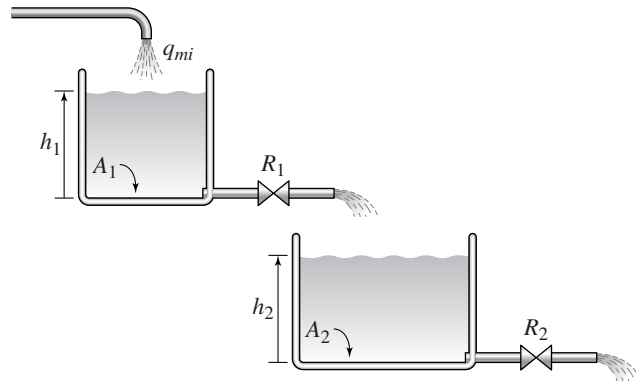

Figure P30
- Use the subsystem block developed in Section 10.7 to construct a Simulink model of the system shown in Figure P30. The mass inflow rate is a step function.
33. Refer to Figure P30. Suppose there is a dead time of 10 sec between the out ow of the top tank and the lower tank. Use the subsystem block developed in Section 10.7 to create a Simulink model of this system. Using the parameters given in Problem 30, plot the heights  $h_1$  and  $h_2$  versus time.